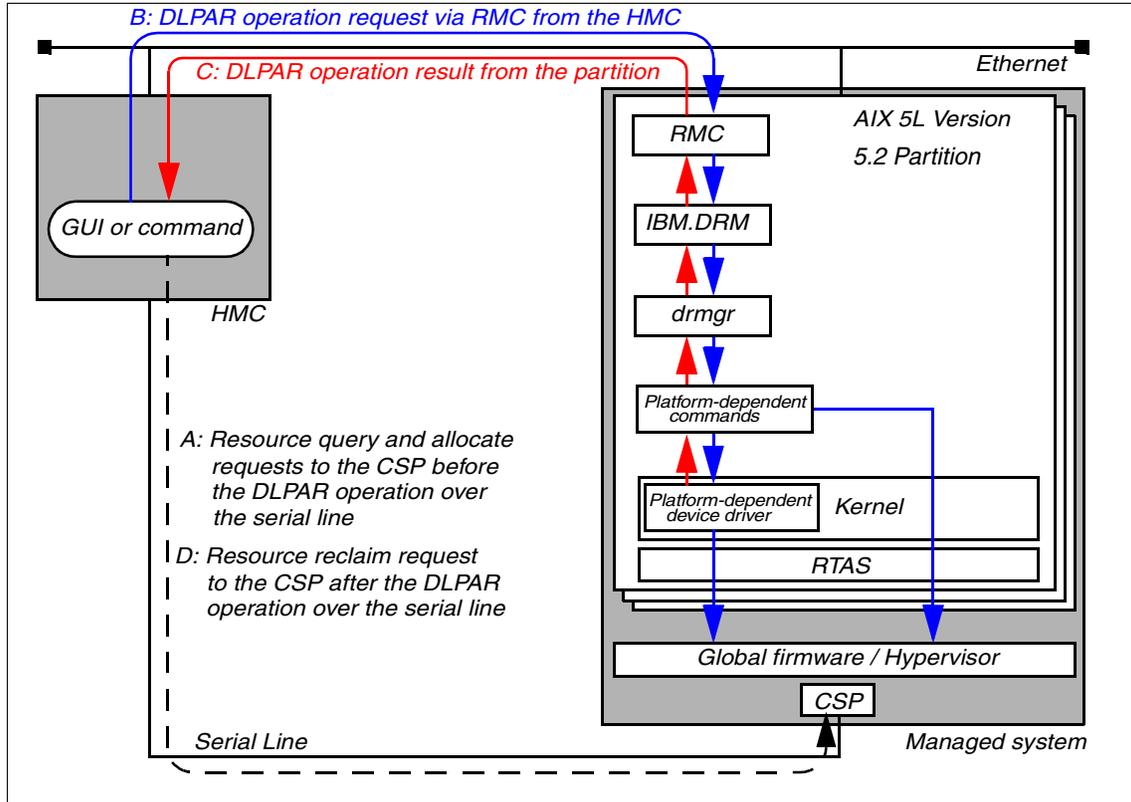

Figure 3-1 Process flow of a DLPAR operation
A DLPAR operation is executed in the process flow is illustrated in Figure 3-1 on page 57.
3. If the request is a resource addition, the HMC communicates with the global firmware in order to allocate free resources to the target partition through the service processor indicated as arrow A in Figure 3-1 on page 57.
4. After the requested DLPAR operation has been verified on the HMC, it will be transferred to the target partition using Resource Monitoring and Controlling (RMC), which is an infrastructure implemented on both the HMC and AIX partitions, as indicated as arrow B in Figure 3-1 on page 57. The RMC is used to provide a secure and reliable connection channel between the HMC and the partitions.
9. After the DLPAR event has completed, regardless of the result, a notification will be returned to the HMC in order to mark the completion of the DLPAR operation, indicated as arrow C in Figure 3-1 on page 57. The notification also includes the exit code, standard out, and standard error from the **drmgr** command. The system administrator who has initiated the DLPAR operation will see the exit code and outputs on the HMC.
10. If the request is a resource removal, the HMC communicates with the global firmware in order to reclaim resources to the free resource pool from the source partition through the service processor indicated as arrow D in Figure 3-1 on page 57.